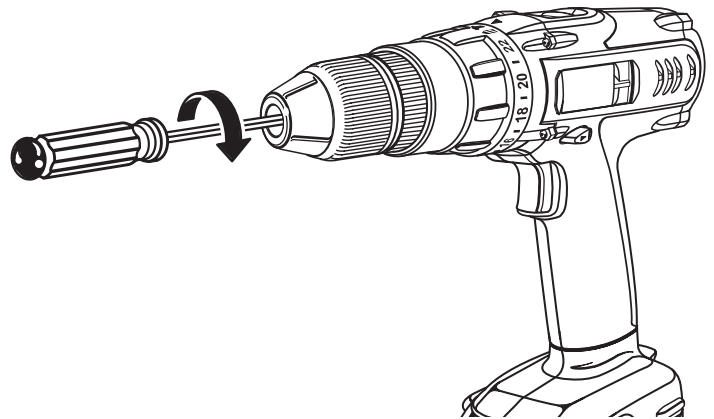

Fig. 18
- Open the chuck jaws and remove the hex key. Remove the chuck screw by turning it in a clockwise direction. *See Figure 18.*